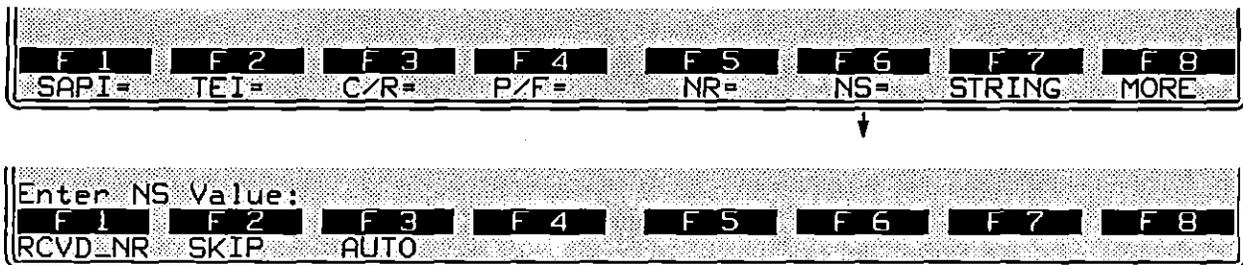

Figure 42-25 The *N(S)* field may be specified in a SEND INFO action.
11. *N(S)*. *N(S)* fields are transmitted in INFO frames only. (See the frame-field diagrams in Figure 42-4.) Entries for *N(S)* in SEND INFO actions are optional. The softkeys that open below NS= are illustrated in Figure 42-25.
Press the SEND softkey followed by the softkey for a frame type. Add any necessary or desired SEND options for the particular frame type. Then press the STRING softkey (labeled F7 in Figure 42-25).